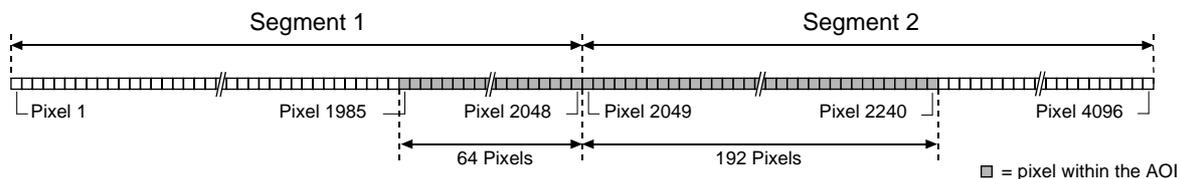

Fig. 28: AOI Falling Across Segments
- Suppose that the AOI starting pixel is set for 1985 and the length is set for 256. With these settings, the AOI falls across the two sensor segments as shown in Figure 28. Segment 1 includes 64 of the pixels in the AOI and segment 2 includes 192 of the pixels in the AOI. The Max Seg AOI Pixels in this situation would be 192 (because segment 2 contains the largest part of the AOI and the number of AOI pixels in segment 2 is 192).